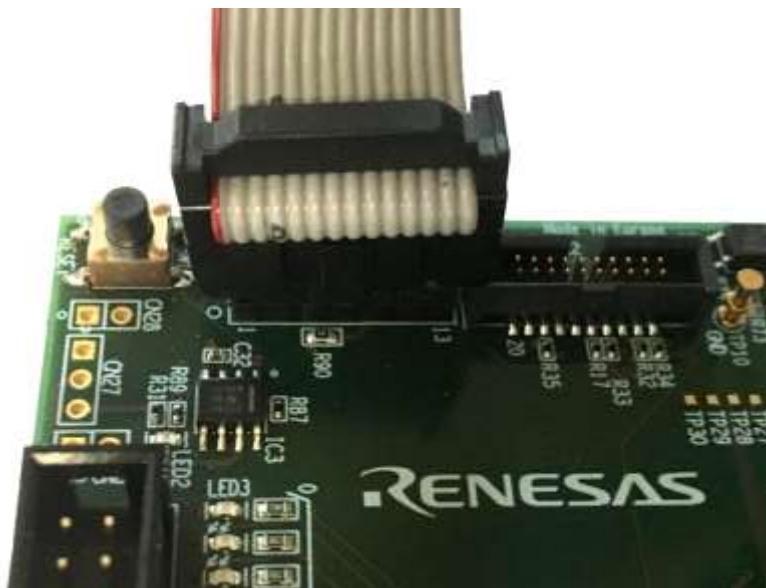

Figure 8. E2 Lite Probe Connection Close-Up
**Note:** Ensure the connector orientation matches Figure 8 (red wire on the left).